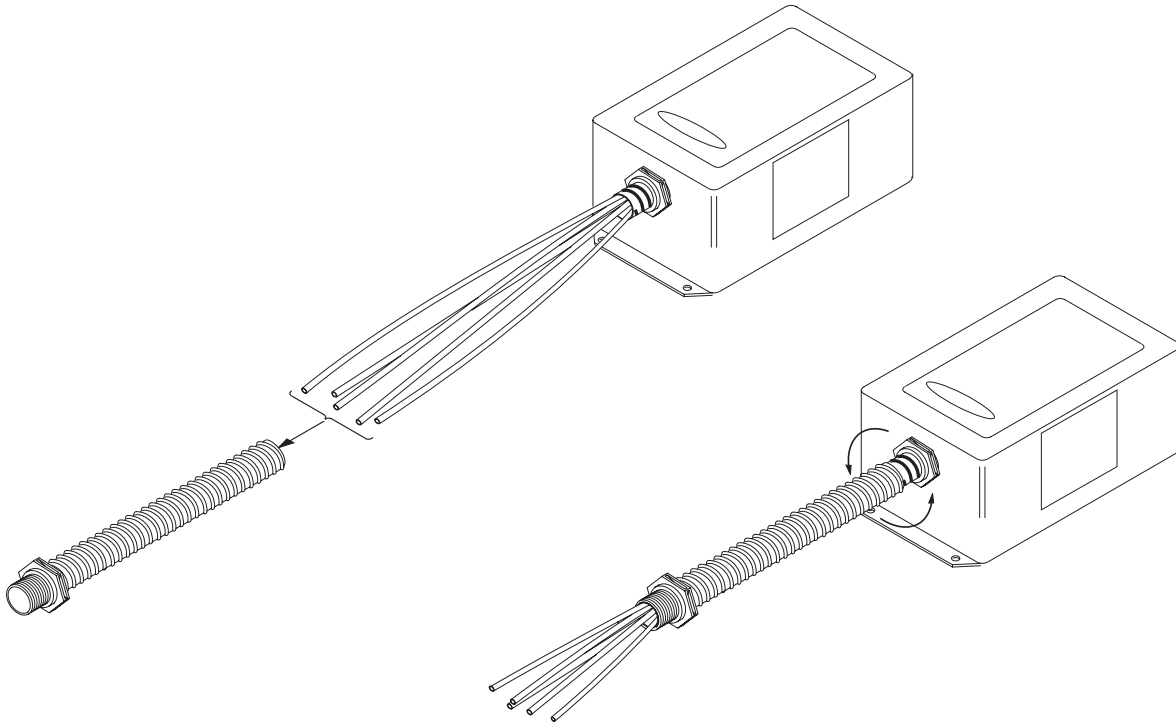

Figure 2
3. Slide conduit with hub attached over the wires of the suppressor. Refer to *Figure 2*.
4. Twist the conduit and hub onto the hub of the suppressor. Refer to *Figure 2*.